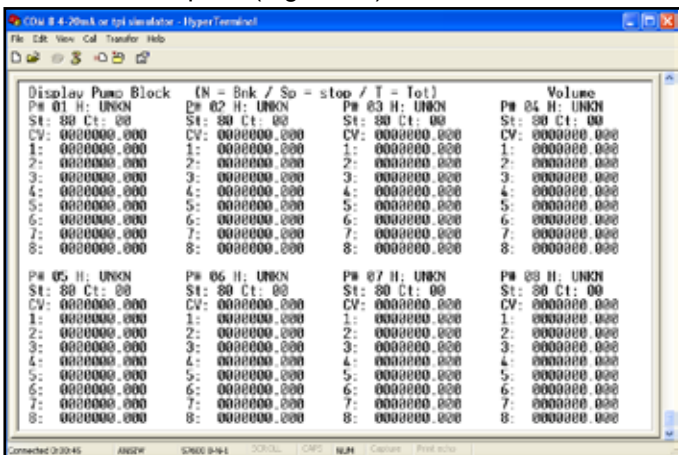

Figure 12: Display Pump Block Screen
4. Finally, at the **Select:** prompt, enter **0** for the total volume option (Figure 12).